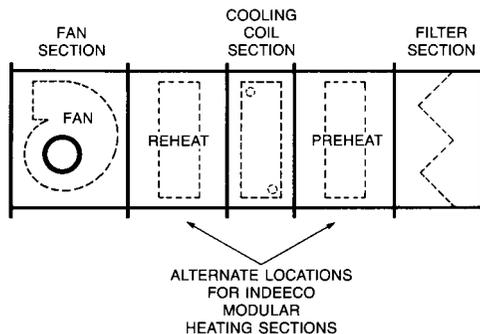

Figure 51.
**Modular Construction** – The heater is designed to match adjacent air handling unit components such as fans, cooling sections, filter boxes, etc. (Figure 51). Special construction is used so that the heater mounts adjacent to other components; the heater becomes simply one module of the air handling unit assembly. Unheated sections are provided where there is little or no airflow, such as the area blocked by an adjacent cooling coil header. Pressure plates can be provided to insure uniform airflow when the heater must be installed adjacent to the fan. Buffer sections can be furnished to space the heating coils away from temperature sensitive components or to help assure uniform airflow.